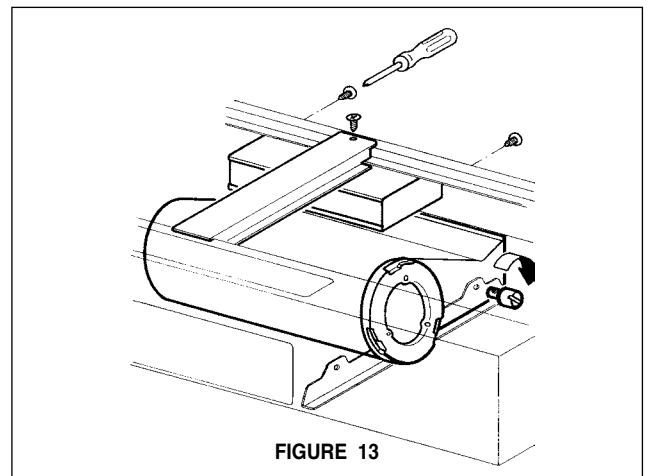

FIGURE 13
2. Rotate the blower 180° so that the exhaust points out the front of the rangehood. Replace the two thumb screws and tighten so that the blower is securely fastened inside the rangehood as indicated in **FIGURE 13**. Reattach the control box and central support. Make sure that the wiring harness is concealed behind the central support.